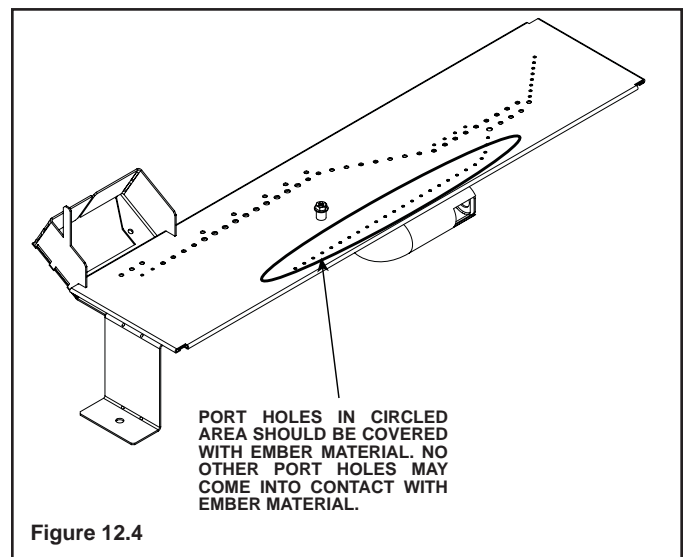

Figure 12.4
- Embers CANNOT be placed directly over ports. See Figure 12.4 for the only exception to this guideline. Care should be taken not to cover the lighting trail of ports (from back to front).
- Some of the small port holes should be covered with ember material. See Figure 12.4 for detail.